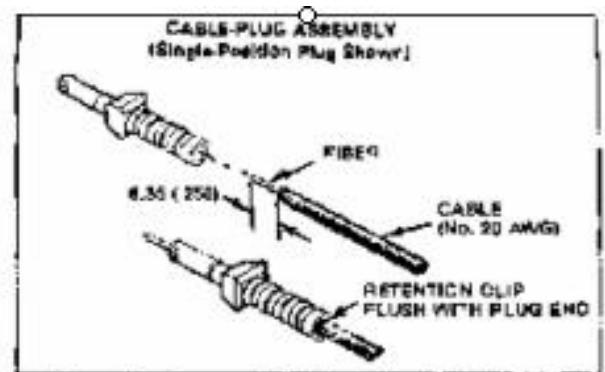

Figure 1
2. Push the stripped cable into the plug until the cable bottoms and excess fiber extends out the nose of the plug. (See Figure 1)